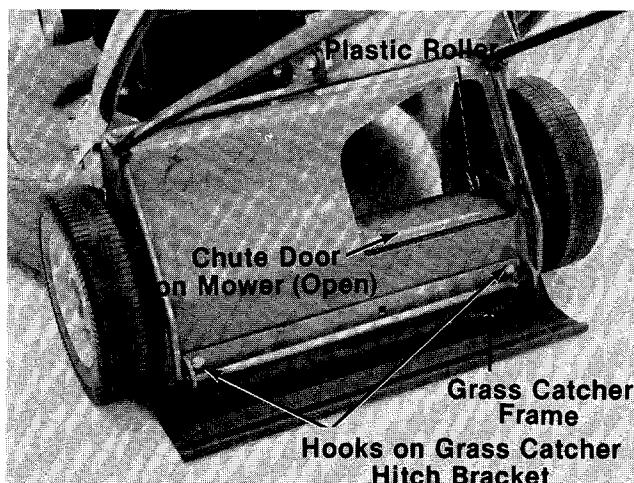

FIGURE 8.
- ← 1. Attach the grass catcher frame to grass catcher hitch bracket on rear of the mower by hooking grass catcher into hooks on grass catcher hitch bracket. See figure 8.
2. Lift the rear of grass catcher up. The roller on the grass catcher will push the chute door on the mower open. See figure 8.
Figure 8 is shown with the chute door open for photo clarity only.